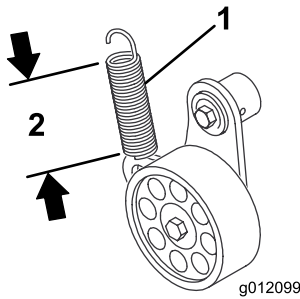
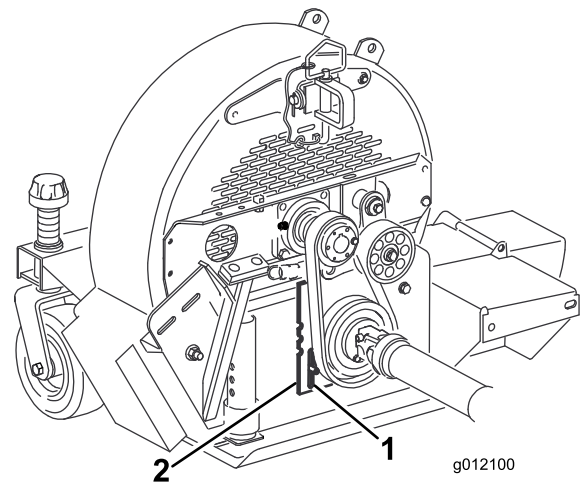

Figure 13
Figure 14
2. A new belt is properly tensioned when the idler spring body is extended to a length of 3-1/4 to 3-1/2 in. (83-89 mm) (Figure 13).
- Move the belt tensioner (Figure 13) down until the idler spring body is extended to a length of 3-1/4 to 3-1/2 in. (83-89 mm) (Figure 14), then tighten the nuts.